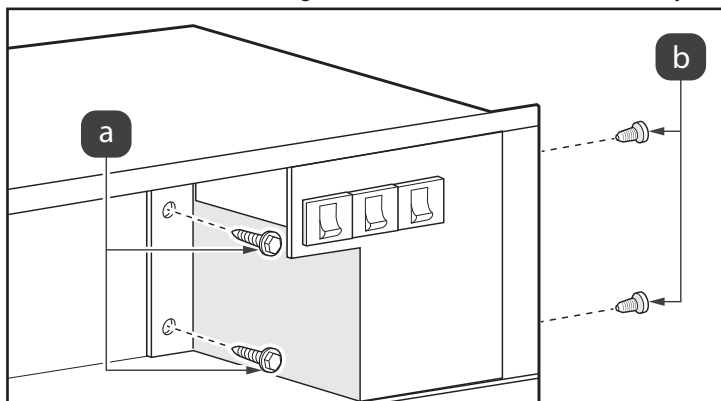

Figure 5. Remove Transformer Assembly
13. Remove 2 inner retaining screws from transformer assembly, see Figure 5(a).
14. Remove 2 outer retaining screws from transformer assembly, see Figure 5(b).